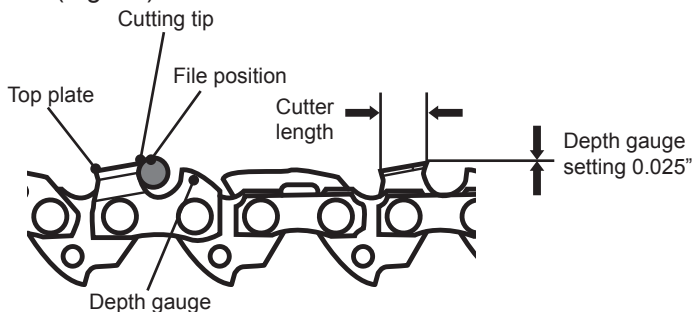

Fig. 51
- Use a depth gauge measuring instrument to check the height of the depth gauge. Depth gauge measuring jigs are available from most reputable tool merchants (Fig. 51).